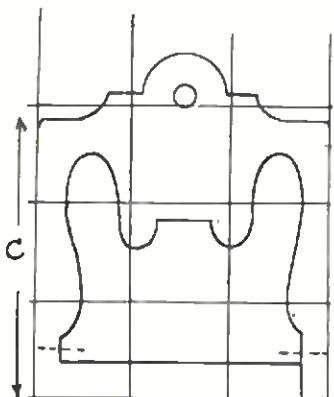

Fig. 2
Saw out the parts with a medium blade and then separate. The strut part, at the top, should have its rear edge rounded off a little, or it, when pivoted, may stick a bit. This is shown in detail (A) in Fig. 2. Now on the part indicated
The frets which open out, are rounded off on their bottom edges, as in detail (D) in Fig. 2, and the work of pivoting is carried out as for the pen rack. Articles like these, apart from their suitability as home novelties, or simple gifts for friends, would make saleable articles for church bazaars or sales of work, and usefully utilise many small pieces of good fretwood which might otherwise be wasted.